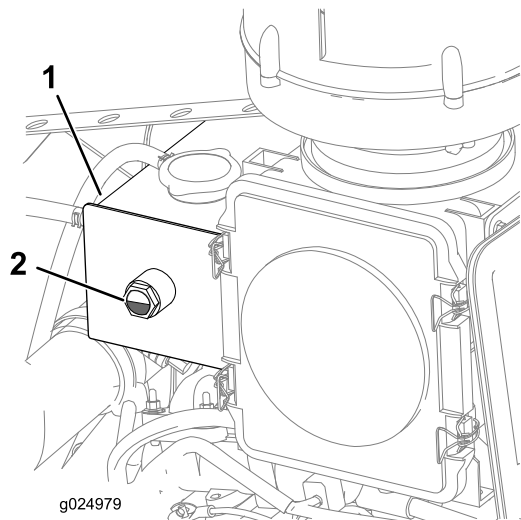

Figure 25
4. Check the coolant level in the reservoir (Figure 25).
- Note:** Ensure that the coolant level is between 1/4 and 3/4 of the way up in the sight glass (Figure 25).